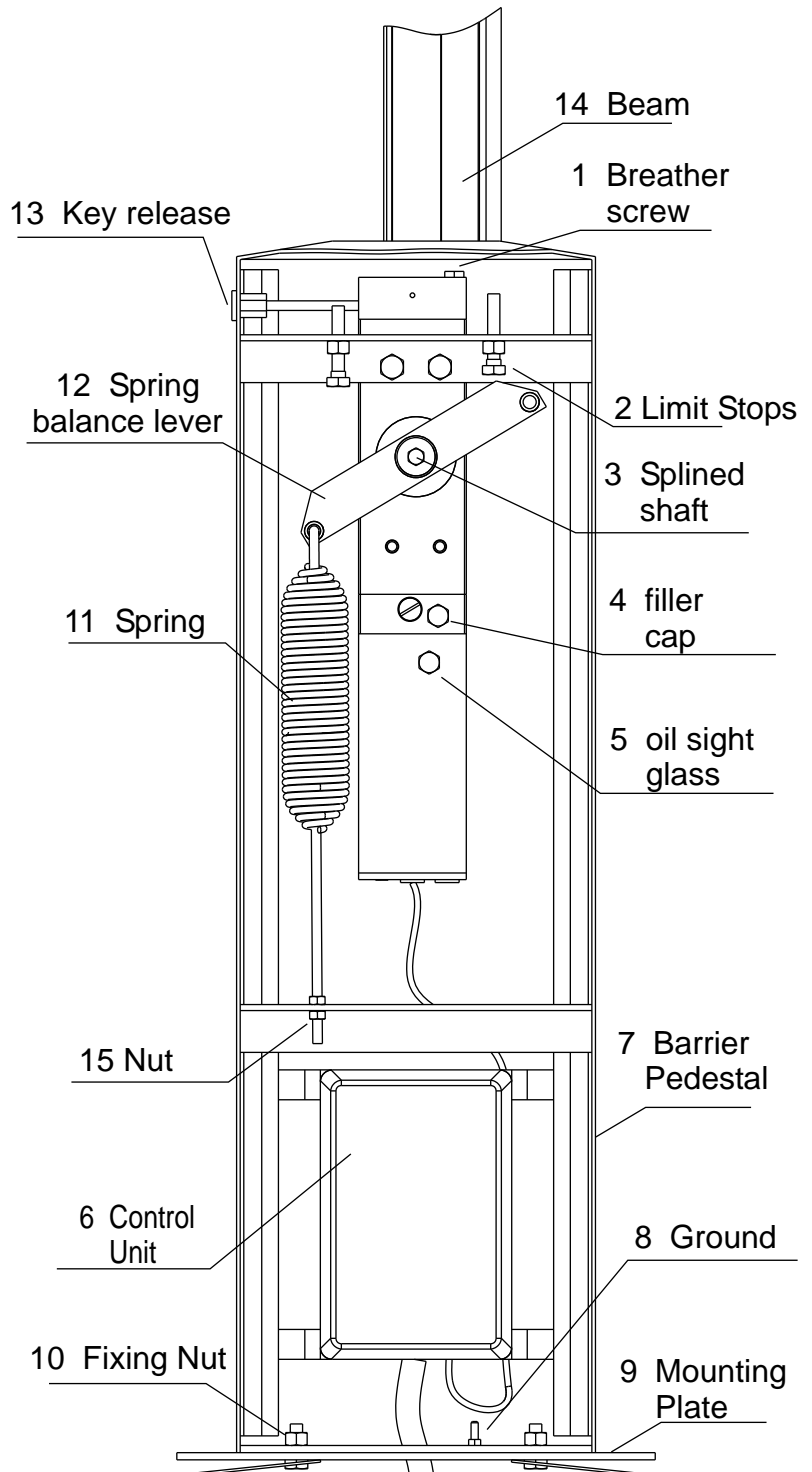

Fig. 1
Fig. 1 shows the constituent parts of the Vela unit, including the pedestal casing, electro-hydraulic operator and counter sprung beam assembly.
- Partly fit the travel limit bolts and lock nuts (2 in Fig. 1). They will be adjusted while balancing the beam.
- Fit the balance spring (11 in Fig. 1) on the balance lever and spring adjusting rod (10):
- Move the beam (14) to an angle of 45° and adjust the tension of the spring using the adjusting rod..
IMPORTANT: REMOVE THE BREATHER SCREW (1 in Fig. 1). SUBSTITUTE THE TRANSIT OIL FILLER CAP (4) FOR THE FILLER CAP WITH A BREATHER HOLE WHICH IS SUPPLIED WITH THE KIT